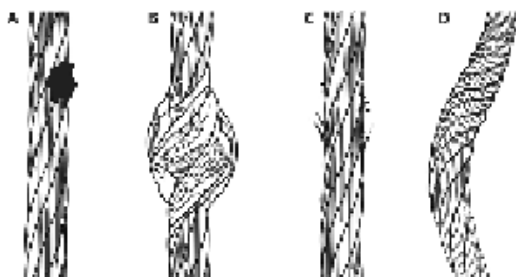

Figure 10: Inspection of Cable
Inspect the entire length of the constituent line up. Review the cable lifeline closely for broken strand wires, welding spatter burns, welding slag, bird caging, kinks and bent strands. Also examine for rust, dirt, paint, grease or oil. Check for damage caused by chemical corrosion or excessive heat as evident with discoloration. See Figure 10 for examples. If any of these conditions exist, remove the SRD from service.
Extract all of the cable and check the entire working length for damage caused by chemical corrosion or excessive heat as evident by discoloration (A), bird caging (B), broken wire strands (C), kinks and bent strands (D), see Figure 10. The cable should retract completely without faltering and should remain taut under tension without sagging.